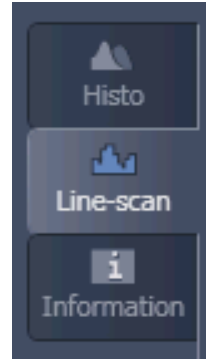

Fig. 17 Selection of Line Scan diagram
- Press **Continuous** to start a continuous scan. Press the **Line Scan** register (Fig. 17).